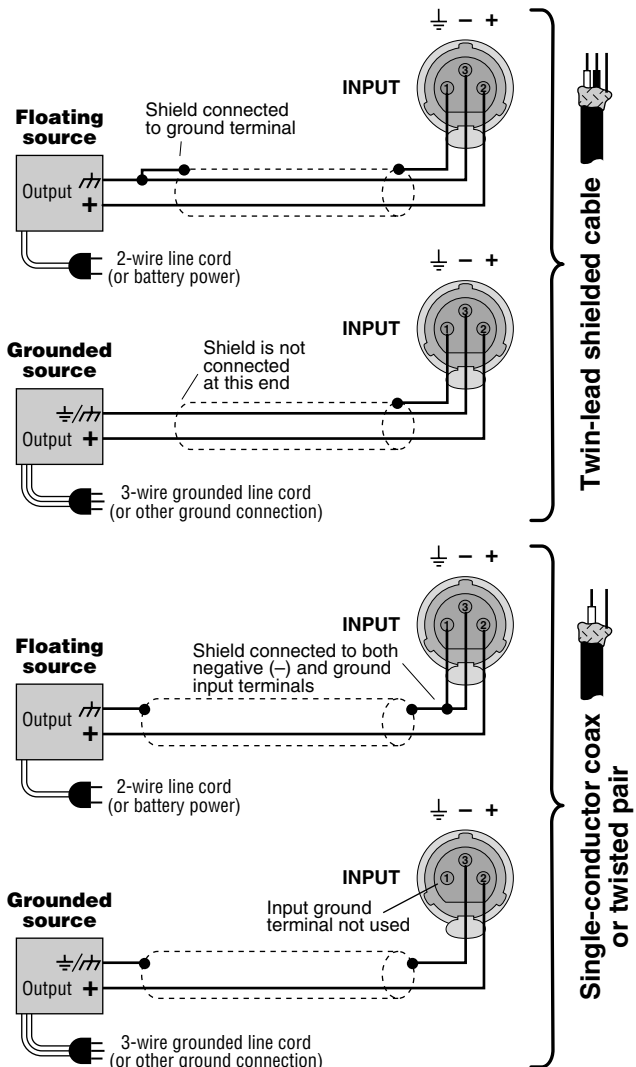
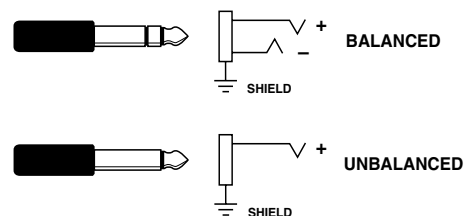

Fig. 3.8 Unbalanced Input Wiring
Fig. 3.10 Balanced and Unbalanced Phone Plugs
Correct input wiring depends on two factors: (1) whether the input signal is balanced or unbalanced, and (2) whether the signal floats or has a ground reference. Figures 3.8 and 3.9 show the recommended connection techniques for each combination of source signal characteristics.
The amplifier's built-in 1/4-inch input phone jacks can be wired similarly for balanced or unbalanced, floating or ground-referenced sources. They have a standard tip-ring-sleeve (TRS) configuration: the tip is positive (+), the ring is negative (-) and the sleeve is ground (see Figure 3.10). Wiring for various sources follows the XLR wiring examples in Figures 3.8 and 3.9.